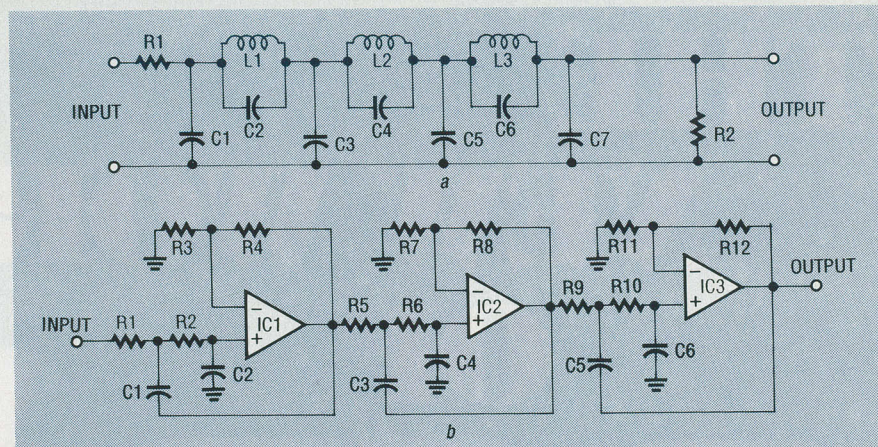

FIG. 1—TWO FILTERS; a passive L-C (a) and an active op-amp (b). Neither of these types can be as flexible or reliable as one using DSP.
The basic Hall-effect sensor, shown in Fig. 1, is a small sheet of semiconductor material in which a bias current flows. The Hall-effect output of the sensor takes the form of a voltage measured
**FIG. 1—THE BASIC HALL-EFFECT sensor** is a small sheet of semiconductor material in which a bias current flows. The output voltage, measured across the width of the conducting material, is negligible in the absence of a magnetic field. If placed in a magnetic field, the output is directly proportional to the intensity of the magnetic field.
Analog filters—either in the form of L-C networks (Fig. 1-a) or simple op-amp circuits (Fig. 1-b)—are used in other numerous signal processing applications. They can, for example, be used to "peak up" audio or RF signals at certain frequencies or, in the form of high-pass, low-pass, and bandpass or notch filters, to allow the passage of signals of certain frequencies while blocking those of others.